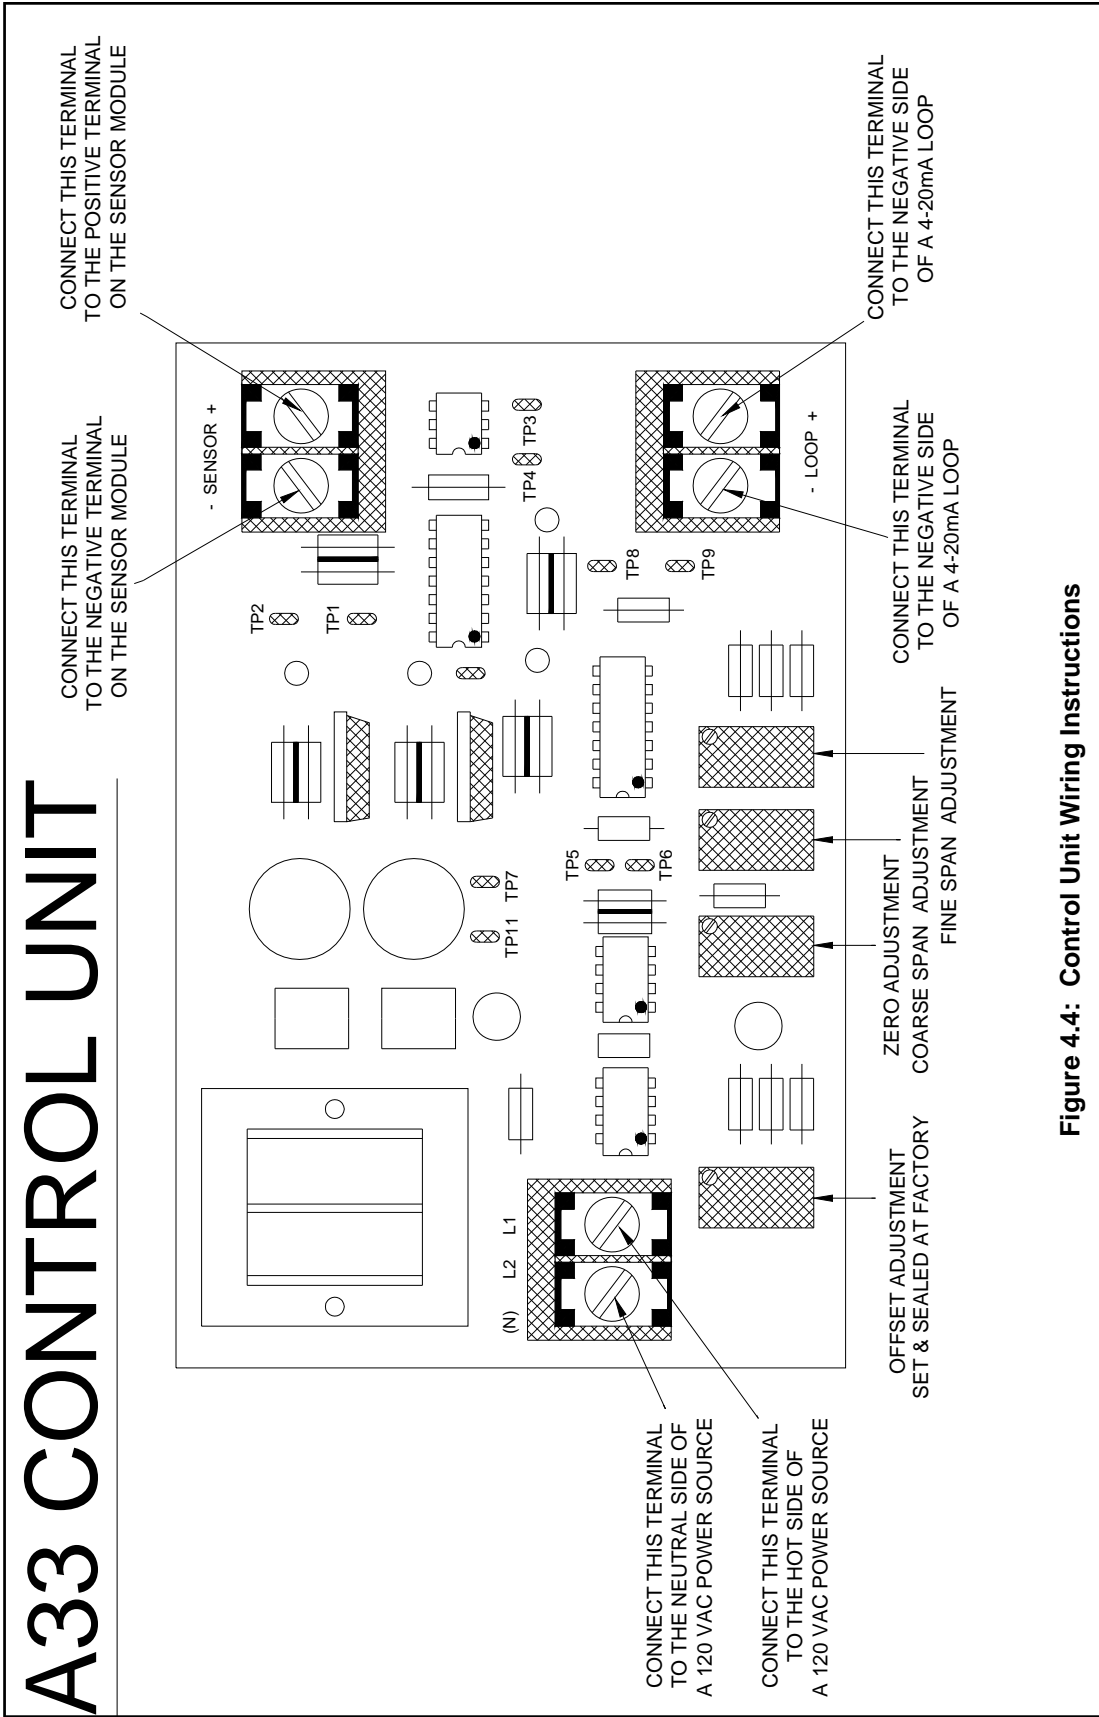

Figure 4.4: Control Unit Wiring Instructions
- 4.10 After installing and wiring the unit, it is necessary to calibrate the unit to the particular vessel and material that will be measured. This is accomplished by first lowering the product level in the vessel to the minimum span point and setting "ZERO." Then, raise the product level to the maximum span point to set "SPAN." It is possible to perform a useable on a vessel that is partially filled at the time of installation. See section 4.11 for details of this procedure. When using this alternate calibration, it is recommended that "ZERO" and "SPAN" be verified when the actual product level reaches the minimum and maximum points on the probe. Read all of the following step-by-step instructions before beginning. Refer to Figure 4.4 for the locations of adjustments and controls. These instructions describe the calibration procedure for the Model A33 Sensor and Control Units. For calibration of optional accessory equipment, consult the appropriate manual.